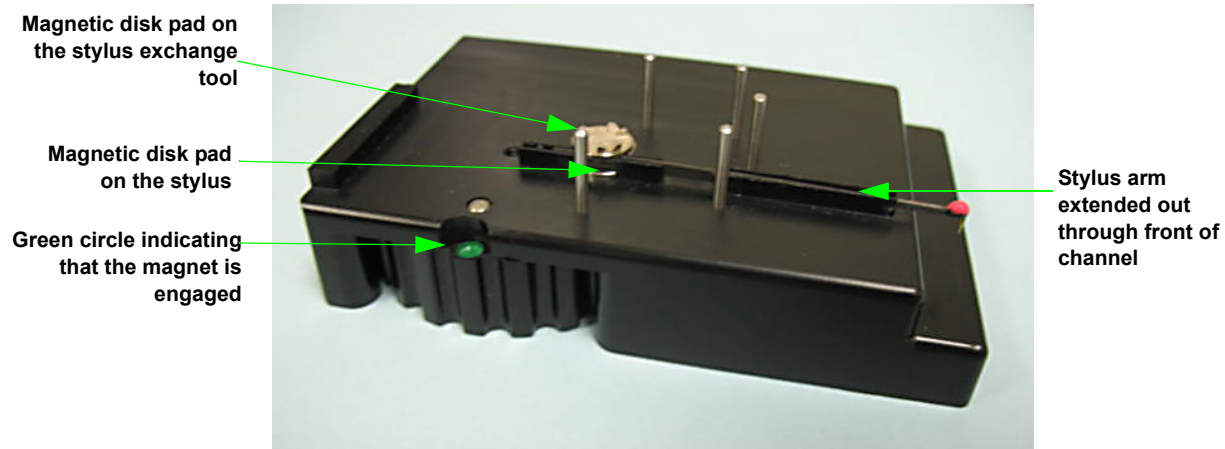

Figure 3-23: Stylus Exchange Tool with a Stylus Seated in the Channel and the Magnet Engaged
- 5 Seat the stylus in the channel on the exchange tool. The stylus arm should extend out through the front channel on the exchange tool (see Figure 3-23).
- 6 Rotate the thumb wheel on the left side of the stylus exchange tool counterclockwise to display the green circle and engage the magnet (see Figure 3-23).